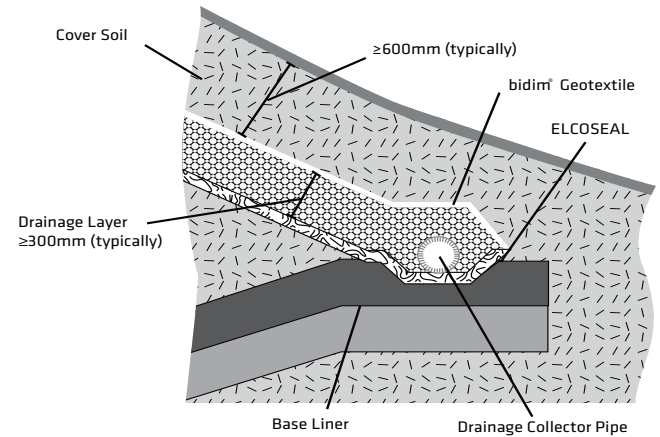

Figure 10 Elcoseal cap connection with base liner
- Integration with thick compacted clay liners is shown in Figure 10;